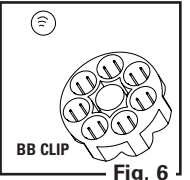

Fig. 6
- Remove the pellet clip and place a .177 caliber (4.5 mm) pellet, nose first, in each pellet chamber of the Model 1008 or 1710, or place a .22 caliber (5.5 mm) pellet, nose first, in each pellet chamber of Model 2210 (Fig. 6). **IMPORTANT:** To avoid jams or deforming the pellets, make sure the pellet skirt is level or slightly below the rim of the pellet chamber.
- Replace the empty pellet clip (ratchet teeth facing the front sight) on the barrel (See Fig. 6).